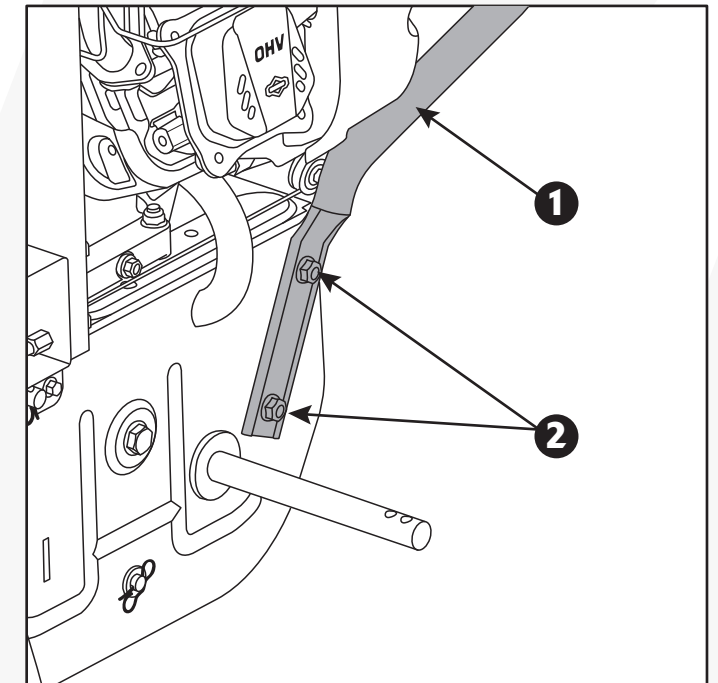

Fig. 2B
2. Attach the lower handle towards the bottom of the snow blower with two screws. (Fig. 2B)